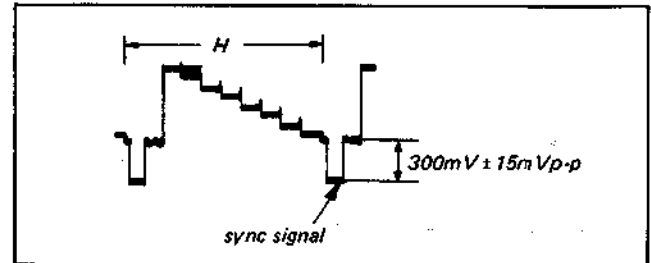

Fig. 4-4-12. Level adjustment of sync signal
- (1) Supply the colour bar signal and set up the E-E mode.
- (2) Connect the oscilloscope to pin 22 of IC1.
- (3) Adjust RV1 for the sync signal level of 300 mV \pm 15 mVp-p. (See Fig. 4-4-12.)